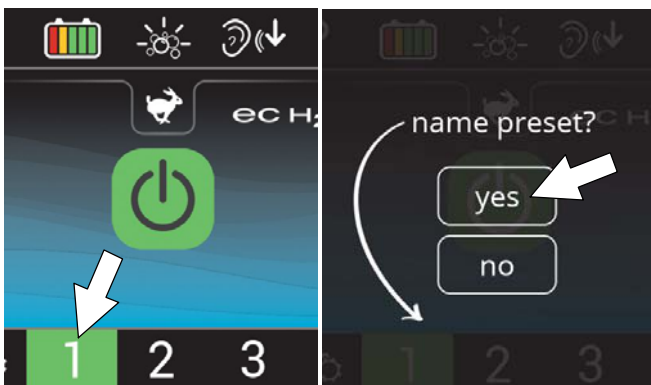

FIG. 64
2. Then press and hold a zone button until a screen prompts you to name the new preset zone. Select "yes" to name the preset zone (Figure 64).